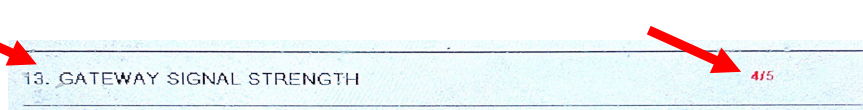

Figure 20
10. View the Gateway signal strength (see Figure 20).